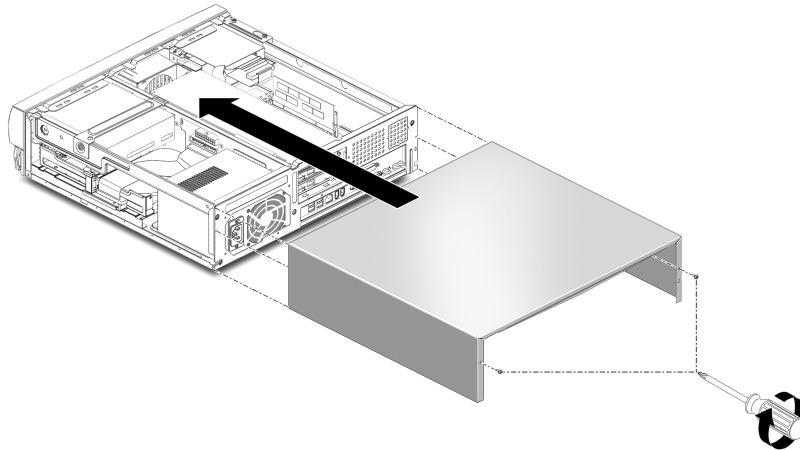

FIGURE 9 Replacing the System Cover
3. Slide the system cover toward the front of the system until the cover tabs lock (FIGURE 9).